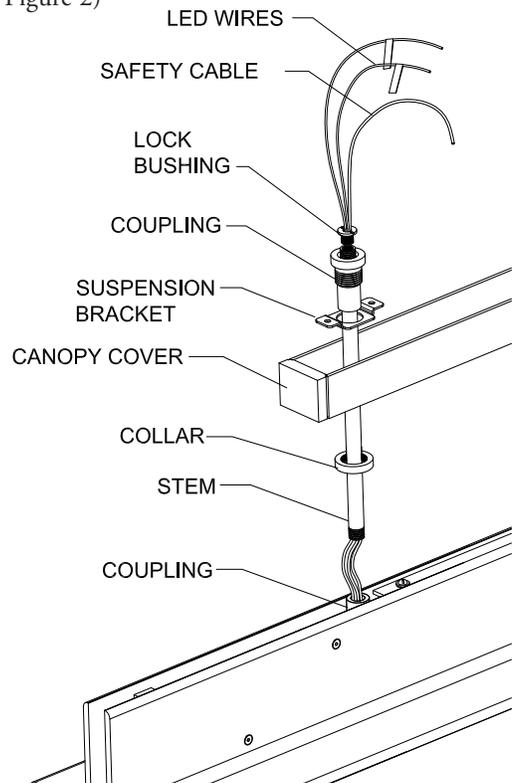

Figure 2
Step 1 Route the LED fixture wires along with the safety cable from the fixture assembly and up through the suspension stems. Thread the stem into the coupling on the fixture assembly. (See Figure 2)
Step 2 Carefully lower the collars and canopy cover down the suspension stems and rest on a soft cloth on top of the fixture. Install the suspension bracket. Thread the adjustable coupling on to the suspension stem. Install the lock bushing into the stem from the top side of the adjustable coupling. The lock bushing is designed to prevent the suspension stem from being completely unthreaded which could cause the fixture to fall from the ceiling bracket installation. (See Figure 2)
Step 3 Carefully lift the fixture assembly up to the ceiling installation. Maneuver the wires and safety cable out of the way so that the suspension brackets can be raised up to the threaded studs in the ceiling block assembly. Secure the retainer brackets into position this will allow fixture to hang from the ceiling assembly. (See Figure 2)